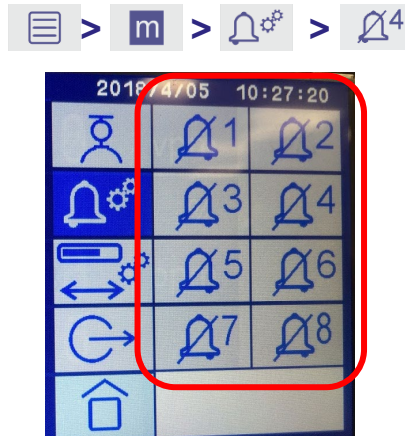

Figure 7-7: Alarm icons on alarm screen
1. Touch the Alarm Setup icon to see the available alarms (See Figure 7-7). Touch the icon for the selected alarm.